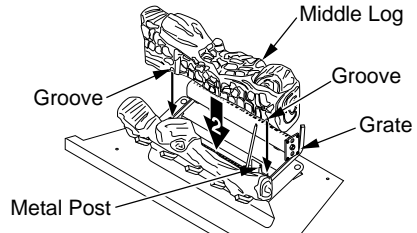

Figure 25 - Installing Middle Log
2. Rest middle log behind metal posts on grate assembly. Make sure the grooves in the bottom of the log fit over the grate. Bring the log forward next to the metal posts (see Figure 25).